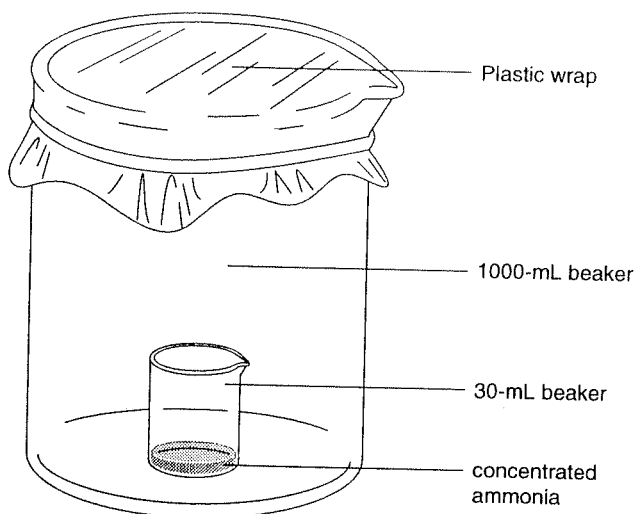

Figure 4.4 Apparatus for the ammonia chamber.
- 2. Ammonia Chamber.** The ammonia chamber may already be assembled in the hood. *Ask your instructor.* Obtain a dry, 1000-mL beaker and place it in the *fume hood*. Pour 5 mL of conc NH_3 into a 30-mL beaker and position it at the center of the 1000-mL beaker (Figure 4.4). (**Caution:** Do not inhale the ammonia fumes.)